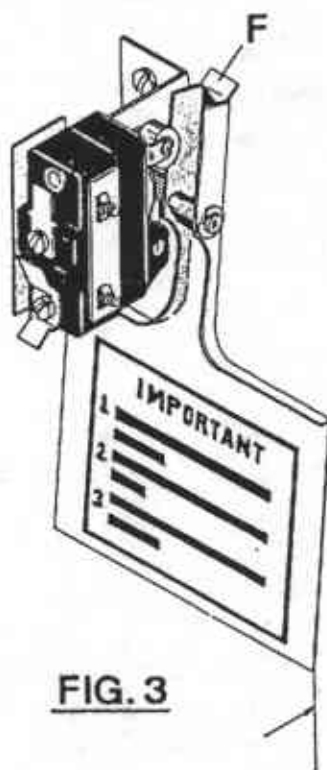

FIG. 3
4. Maximum opening of air switch must be no greater than $\frac{3}{4}$ " (20 mm) (FIGURE 3). Bend tab "F" in or out to maintain this dimension.